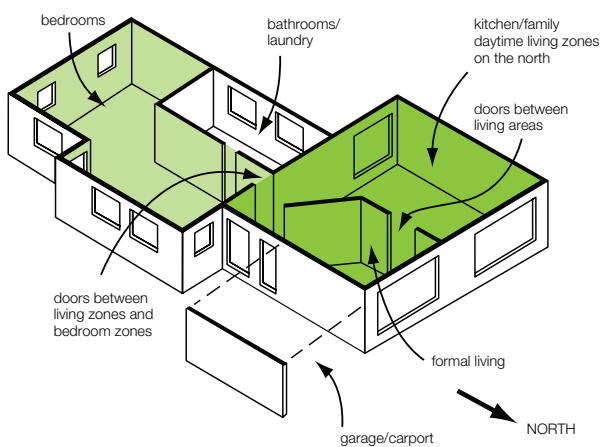

Figure 7: Zoning of a home for a narrow north-south block
- > Locate garages and carports on the east, west or south sides to protect the rest of the home from summer sun and winter winds (see figures 7 and 8).